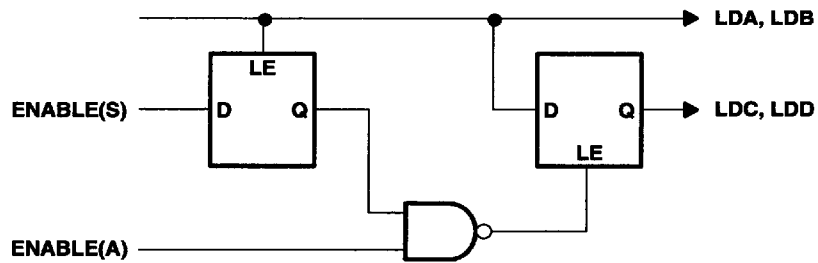
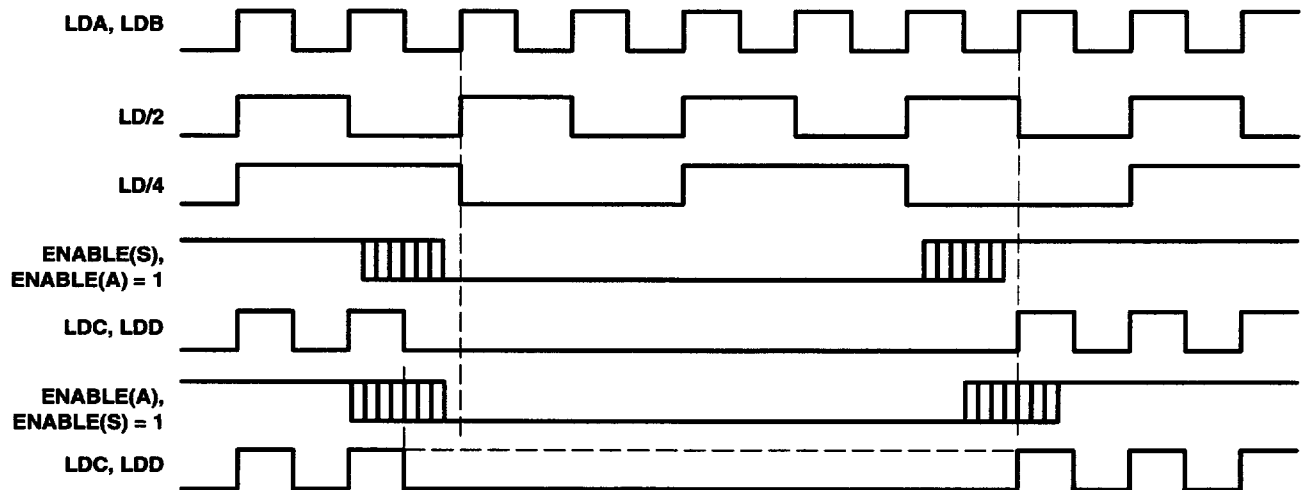

Figure 5. ENABLE Control
Figure 6. Load Output Timing
When both ENABLE(S) and ENABLE(A) are high, LDC and LDD are free running and in phase with LDA and LDB. This architecture allows the shift registers of the VRAMs to be optionally nonclocked during the retrace intervals. Figure 5 illustrates the ENABLE implementation with the TVP2002, while Figure 6 shows the load output timing.